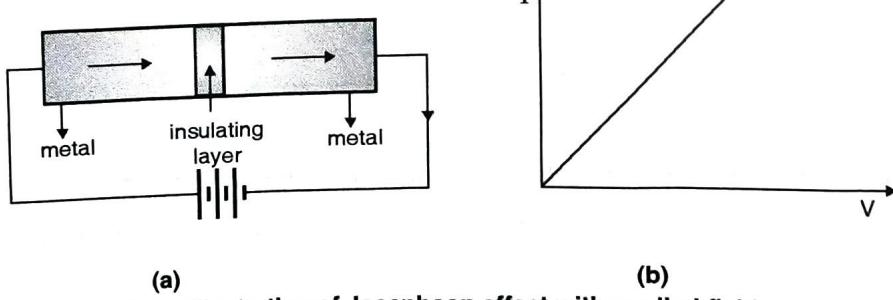

Fig. 5.7.1 : Illustration of Josephson effect with applied field
- Let us see application of potential difference (battery) across the potential barrier, as shown in the Fig. 5.7.1.